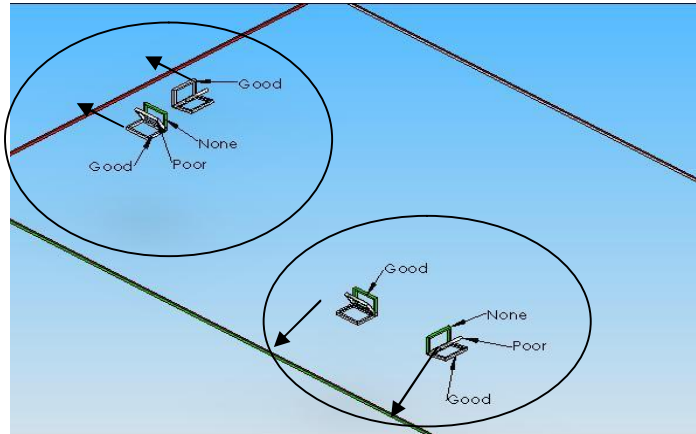

Figure 4: Tag/Mat antenna orientations
- 6.7 Always keep the tag orientation to the timing mat antenna in mind. Maximum coupling and thus read range occurs when the magnetic flux lines of the two loops pass through each other. Figure 4 below illustrates typical tag and mat antenna orientations with indications as to where good and poor coupling take place.